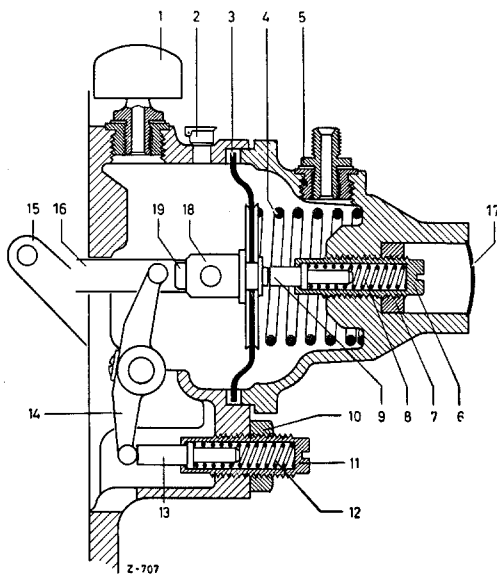

Figure 07-4/14
During this stopping operation the double lever (14) is lifted off the stop bolt (13) of the full load stop (Figure 07-4/15).